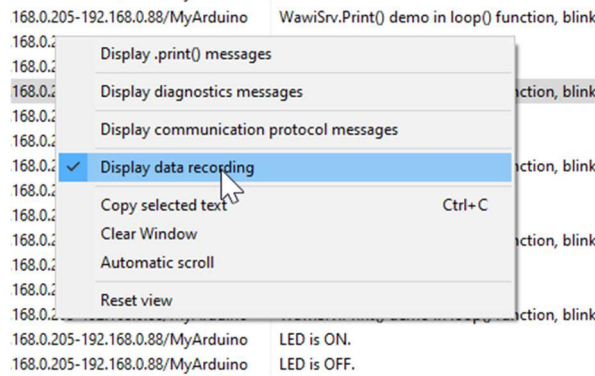

Fig. 8.5. Enable recording reporting in the output window.
- ✓ Enable “Display data recording” (fig. 8.5.)